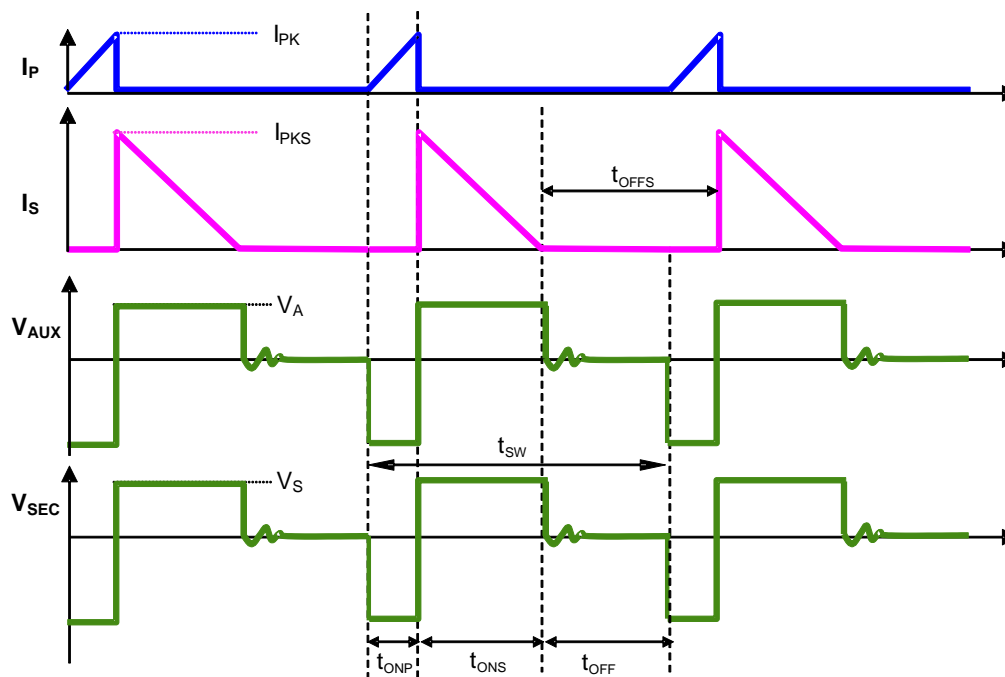

Figure 2 The Operation Waveform of Flyback PSR System
Figure 2 shows the typical waveforms which demonstrate the basic operating principle of the AP3983R application. And the parameters are defined as the following.
As illustrated in Figure 2, when the current **i_p(t)** rises up to **I_{PK}**, the switch Q1 turns off. The constant peak current is given by:
The AP3983R can work in constant-current (CC) mode. Figure 2 shows the secondary current waveforms.